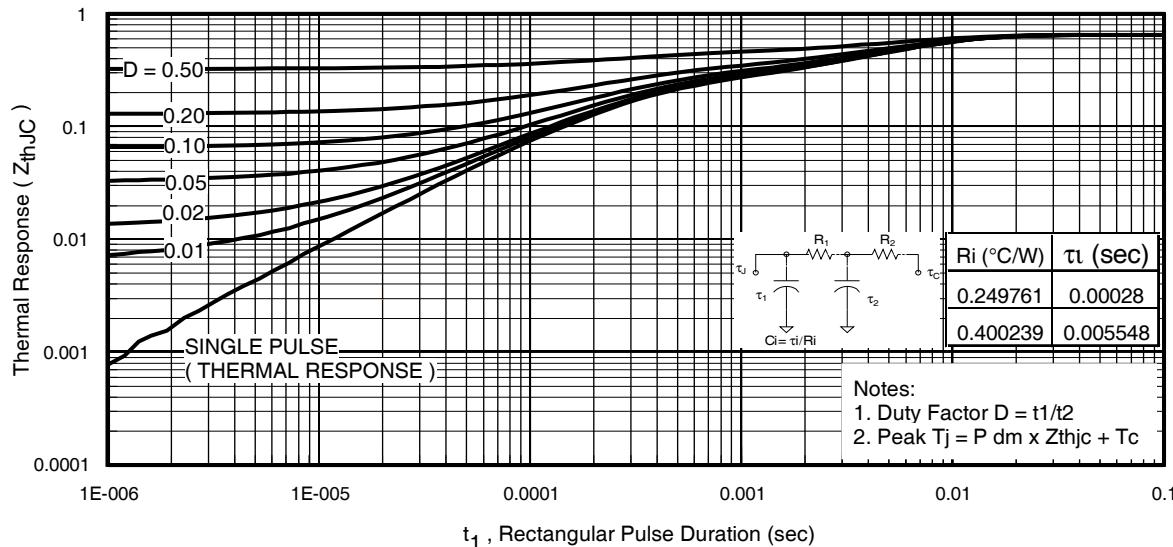

Fig 13. Maximum Effective Transient Thermal Impedance, Junction-to-Case
- $Z_{th,JC}(D, t_{av})$ = Transient thermal resistance, see Figures 13